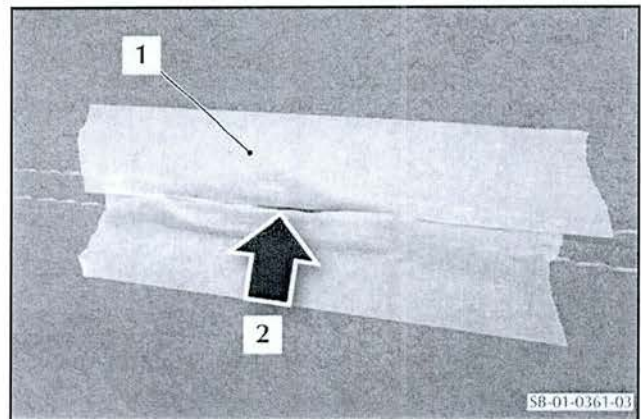

Figure 3
2. Apply masking tape (1) along the other edge of the seam in the alcantara trim (refer to Figure 3). Make sure that you fully cover the edge (2) of the alcantara.